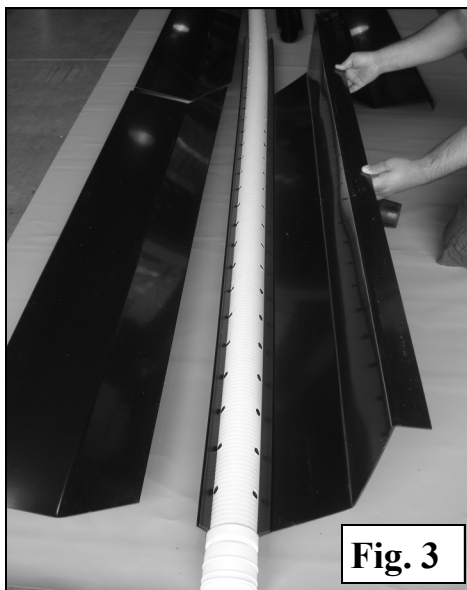

Fig. 3
1. As shown in Fig.3 insert side panels into the clip on the drain retainer.